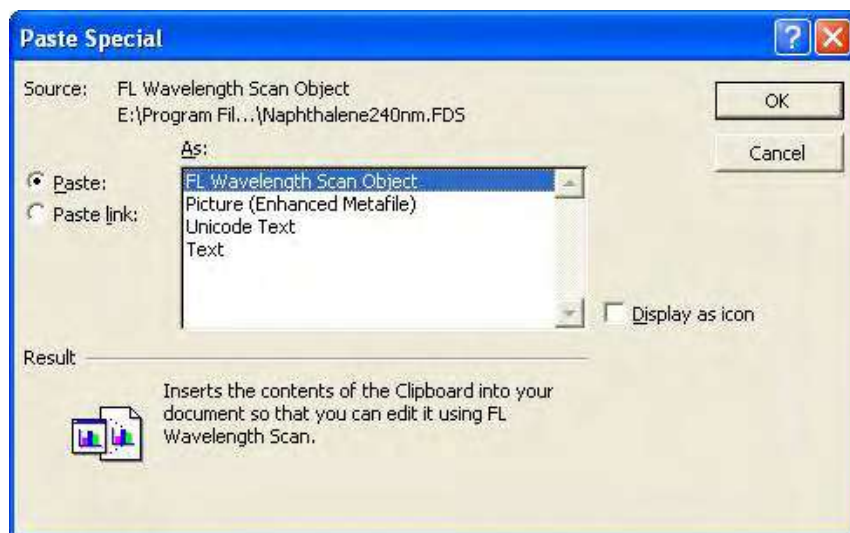

Fig. 7-44
- (1) Make spectral data active by clicking the relevant spectrum on the data processing window. The thick frame will change to blue.
- (2) Select the Copy command from the Edit menu.
- (3) Open the Microsoft(R) Excel and select "Paste Special" from its Edit menu. A dialog box as in Fig. 7-44 will open. Make sure that "FL Wavelength Scan Object" is indicated in "As."